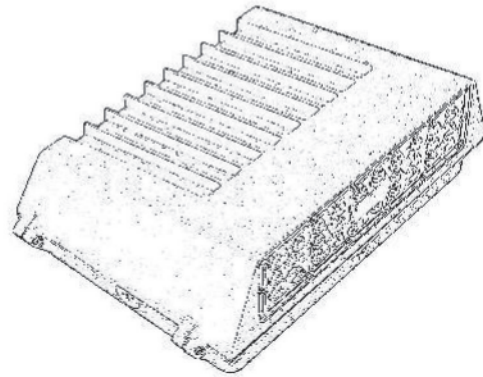

Figure 1.
- If electrical connections are going to be made through a junction box drill the appropriate holes (Item C in Fig. 1) for the sized junction box.